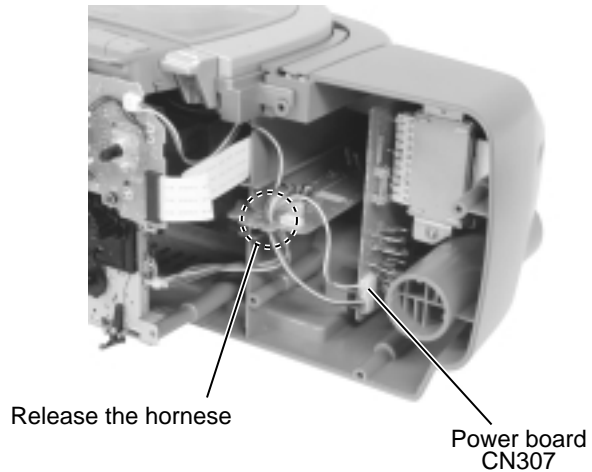

Fig.21
**■Removing the battery board (See Fig.21 and 22)**